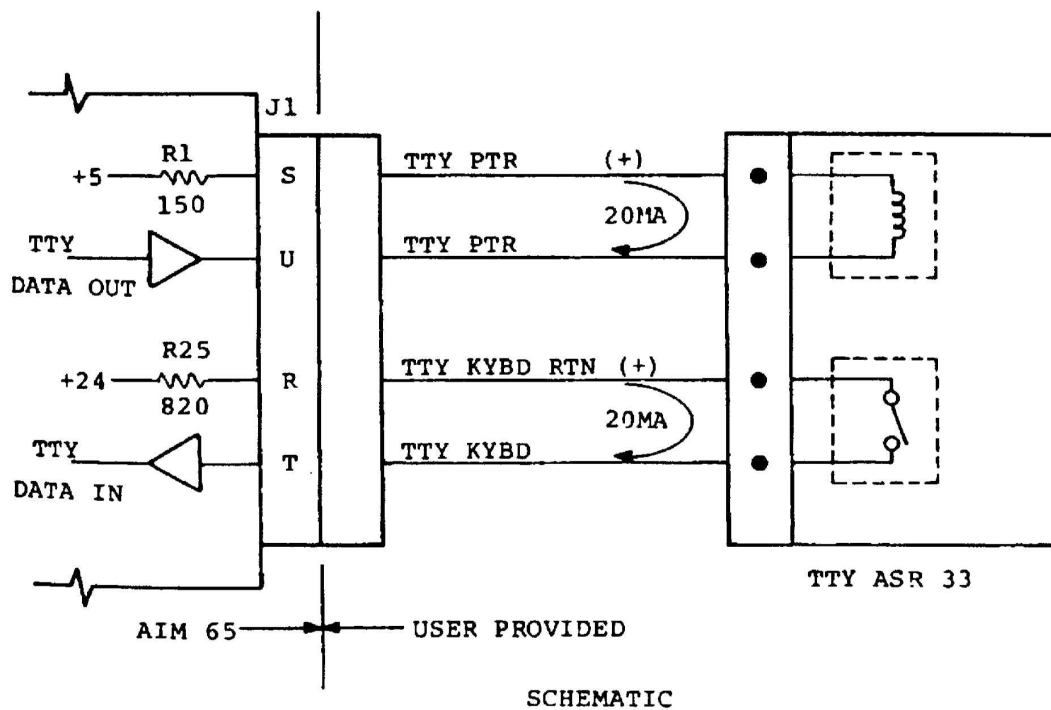

Figure 9-6. AIM 65 to TTY Connection
AIM 65 provides a 4-wire, 20 mA current loop interface to the TTY. The TTY must be configured to operate with this interface, and to operate in full-duplex mode. Figure 9-6 shows a typical connection to a TTY ASR 33.
4. Connect the four TTY interface lines to the AIM 65 application connector (J1) per Figure 9-6.